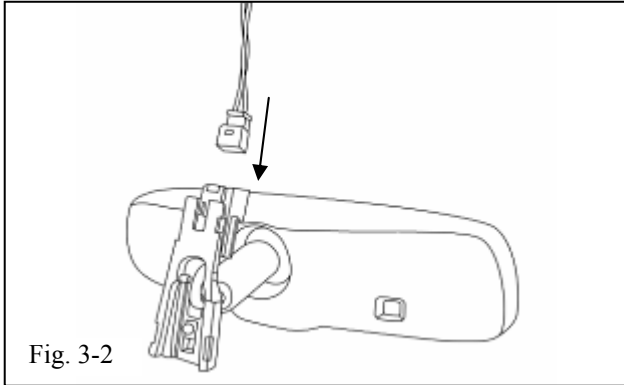

Fig. 3-2
- (c) Plug jumper harness connector into connector on EC mirror mount. (Fig. 3-2)